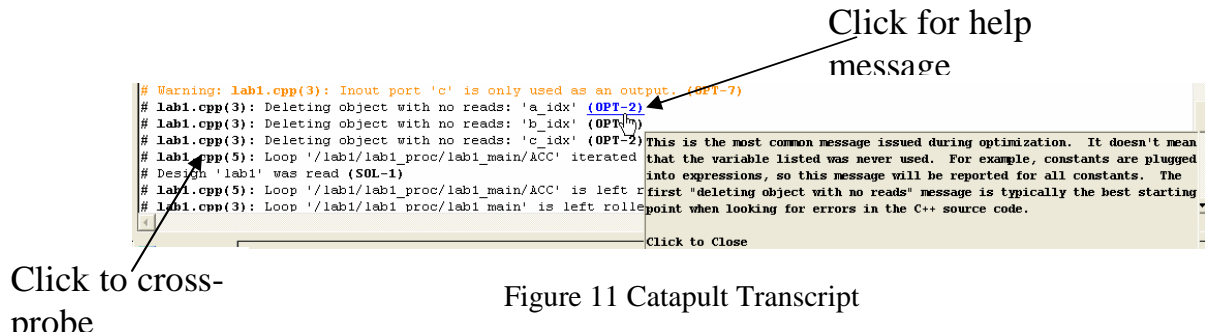

Figure 11 Catapult Transcript
The Catapult C transcript provides information on the various stages of compilations, optimization, and synthesis. It also provides warning and error messages when compilation or optimization fails. These messages can be cross-probed back to the C++ by double-clicking on the bold messages on the left. Further help information can be obtained by double-clicking on the bold help numbers on the right (Figure 11).
- ✓ Click on the (OPT-2) optimization message (Figure 11)